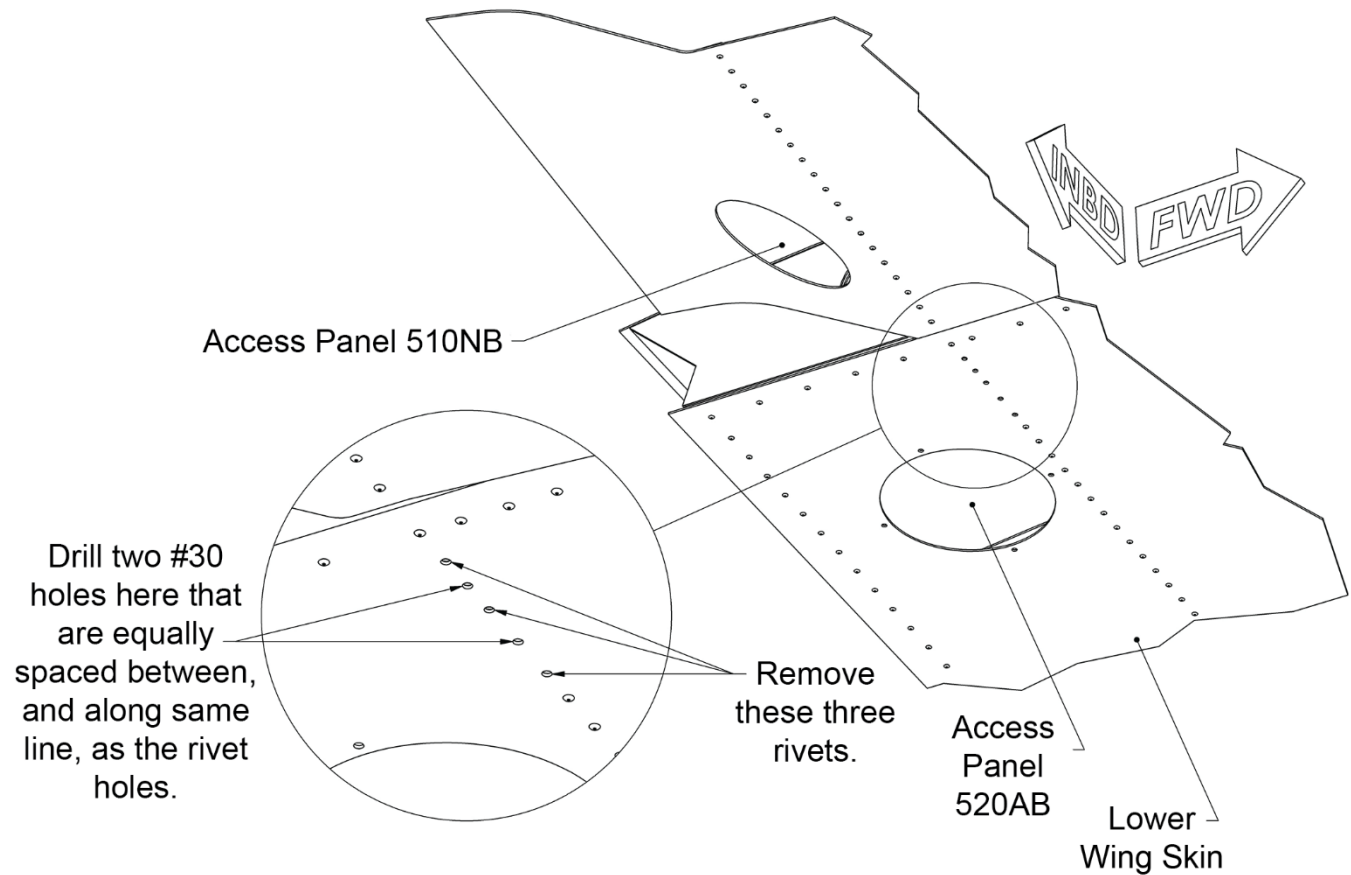

Figure 8: Preparing Lower Wing Skin
7. Prepare upper and lower wing skins for roll servo brackets, as shown in Figure 7 and Figure 8.